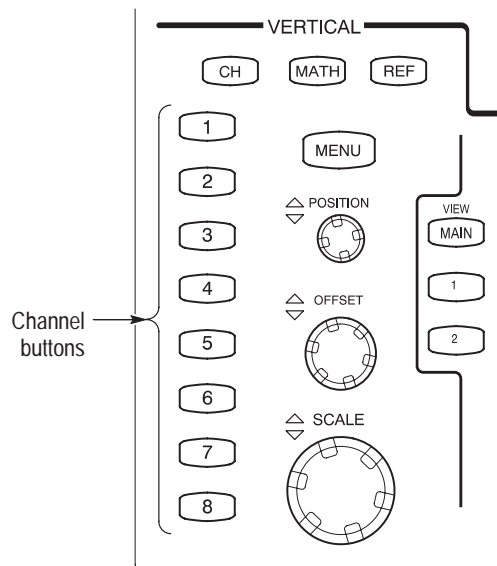

Figure 1–9: Channel button location
3. *Select the channel to test:* Push the channel button for the channel you want to test. The button lights amber and the channel displays. See Figure 1–9.
- The vertical scale readout for the channel under test shows a baseline trace at about center screen (see Figure 1–10 on page 1–27) and a setting as follows: